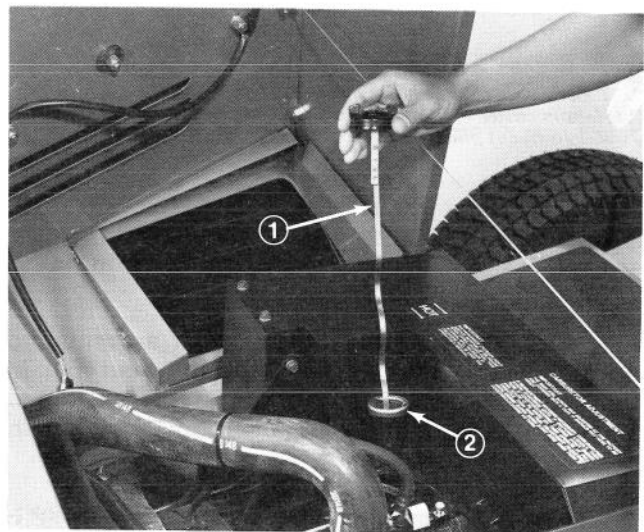

Figure 16
3. Remove dipstick from the top left side of engine (Fig. 16). Add SAE 30 SC, SE or SF classification engine oil until the oil level in the crankcase is up to the "FULL" mark on the dipstick. Add the oil slowly and check the level often during this process. **DO NOT OVERFILL.** The crankcase capacity is three and one half (3-1/2) quarts (3.31 L) (Fig. 16).